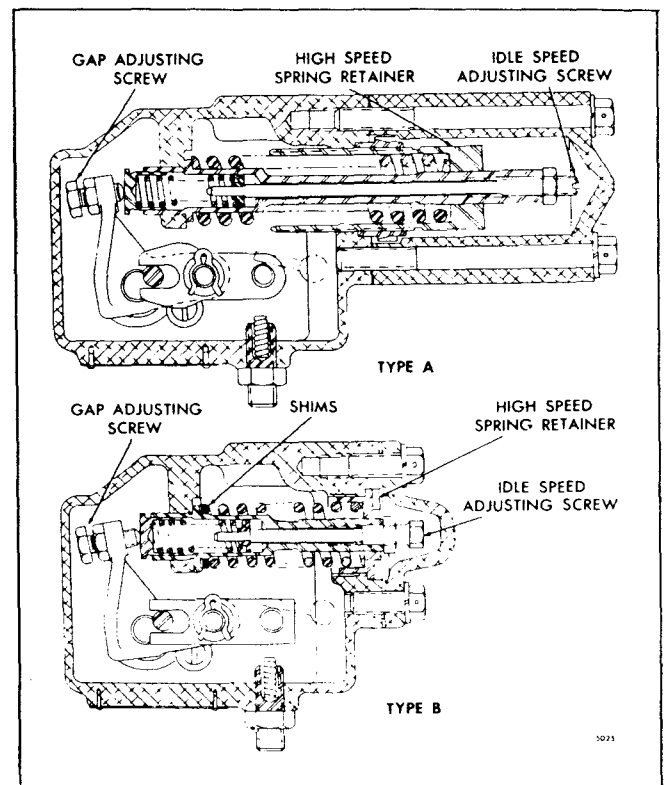

Fig. 4 - Governor Spring Assemblies
TYPE A GOVERNOR SPRINGS (Fig. 4):
TYPE B GOVERNOR SPRINGS (Fig. 4):
- b. Remove the high speed spring from the high speed spring plunger and add or remove shims (Fig. 4) as required to establish the desired engine no-load speed.